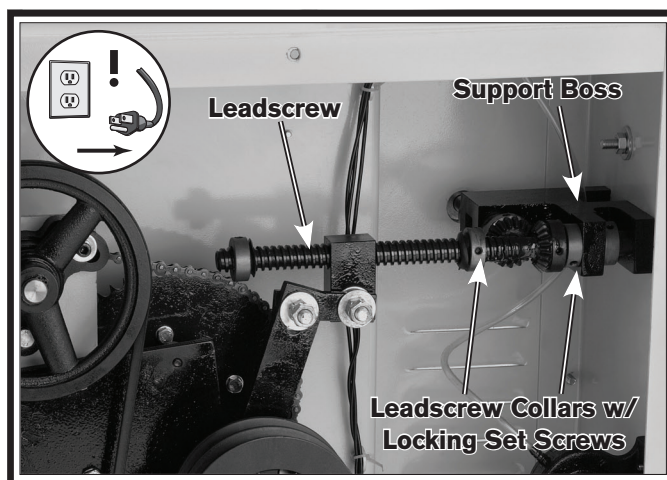

Figure 45. Leadscrew adjustment locations.
2. Remove the rear lower access panel, and use a 4mm hex wrench to loosen both collar locking set screws just enough to adjust the collars (**Figure 45**).